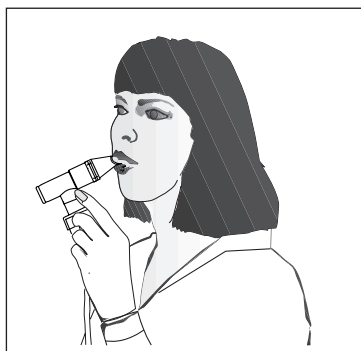

Figure 7/Figura 7
- Begin treatment by placing the mouthpiece between teeth. With mouth closed, inhale deeply and slowly through mouth as aerosol begins to flow then exhale slowly through the mouthpiece **Figure 7**. If treatment needs to be interrupted, simply press power switch "Off".